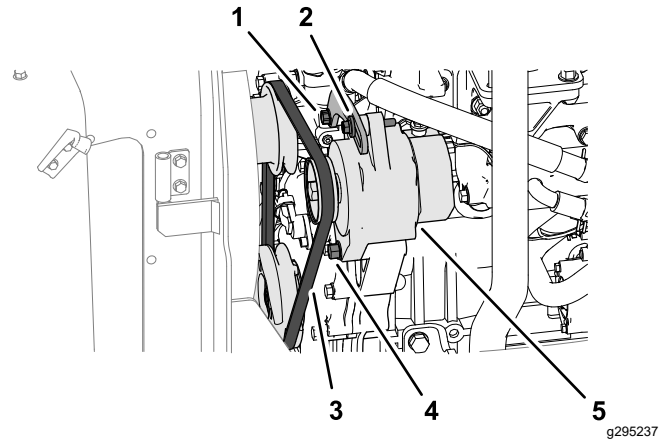

Figure 67
1. Apply 10 kgf (22 lb) of force against the alternator belt (Figure 67), midway between the pulleys.
- If belt deflection is less than 10 mm (3/8 inch), loosen the alternator pivot bolt and tension bolt (Figure 67), and reduce the belt tension.
- If belt deflection is greater than 10 mm (3/8 inch), loosen the alternator pivot bolt and tension bolt (Figure 67), and increase the belt tension.
Note: If needed, loosen the tension bracket bolt (Figure 67).
3. Tighten the bolts (Figure 67).